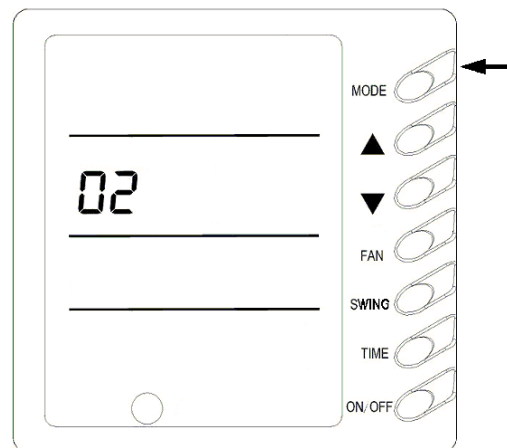

Fig.18
9) Power-off Memory Setting (Fig.18)